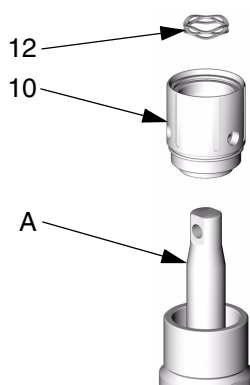

FIG. 2
1. Install pump wet-cup kit (10). Torque to 90-110 in-lb (10-12 N•m). See FIG. 2.